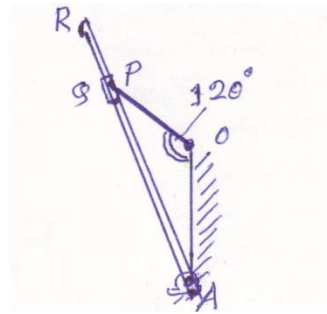

Figure 2
- (a) Calculate the value of the Coriolis component acceleration, f_{PQ}^{cor} for the configuration shown in figure 2. P is on slider and Q is on link AR. Sizes of links are $OA = 400 \text{ mm}$, $OP = 200 \text{ mm}$, $AR = 700 \text{ mm}$. Crank OP rotates in clockwise direction at 210 rpm. Also indicate the direction in which f_{PQ}^{cor} is acting.